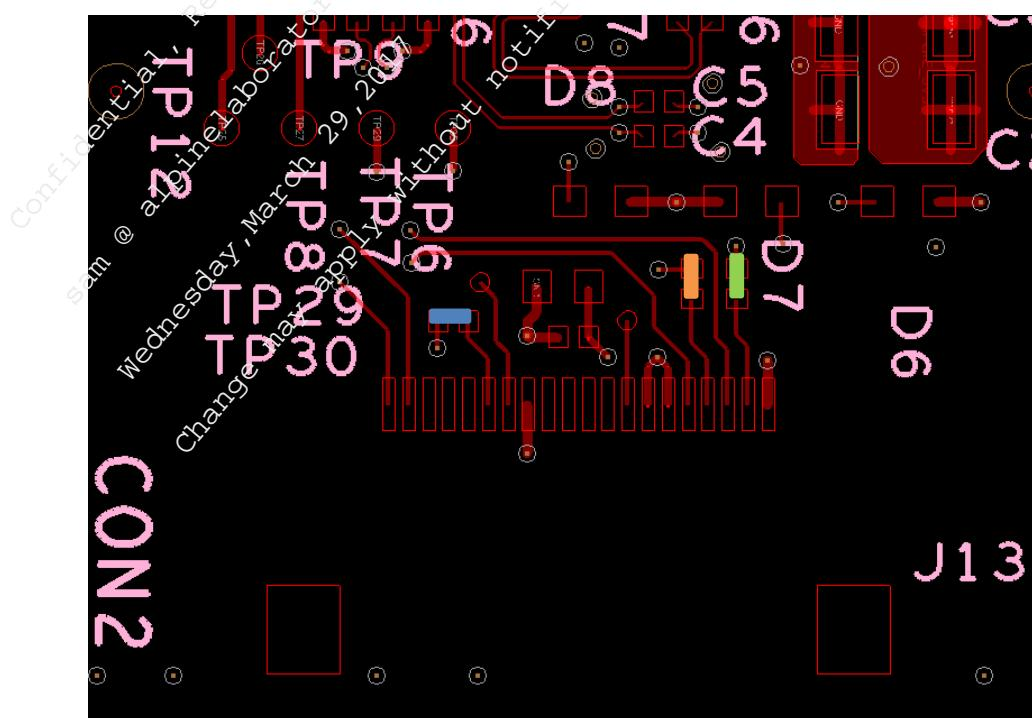

Figure 36: BT_REG_ON/BT_UART_CTS/BT_UART_RTS rework
- 2) Note orientation of J13 Connector (Pin #1 on bottom left) in Figure 36. Populate resistors R209 (Pin #6/KEY_ROW6/BT_REG_ON: blue), R210 (Pin #17/KEY_ROW4/BT_UART_CTS: orange) and R211 (Pin #19/KEY_COL4/BT_UART_RTS: green).